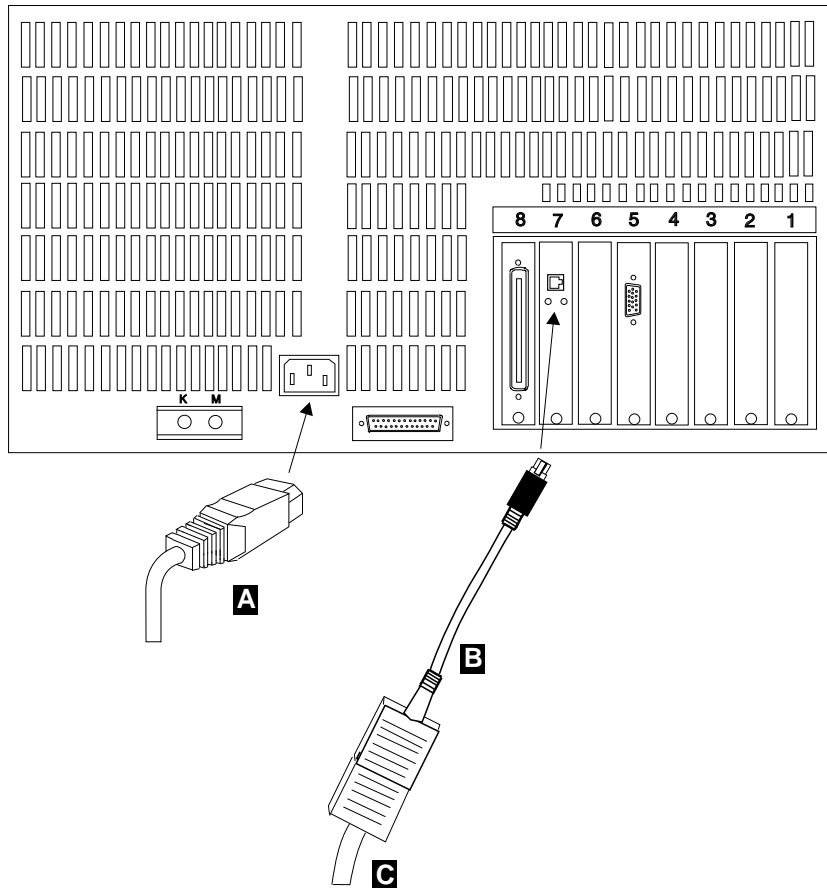

Figure 4-2. Network Node Processor Cables
- c** At the rear of the network node processor re-connect all the cable previously removed (see Figure 4-2 on page 4-2).